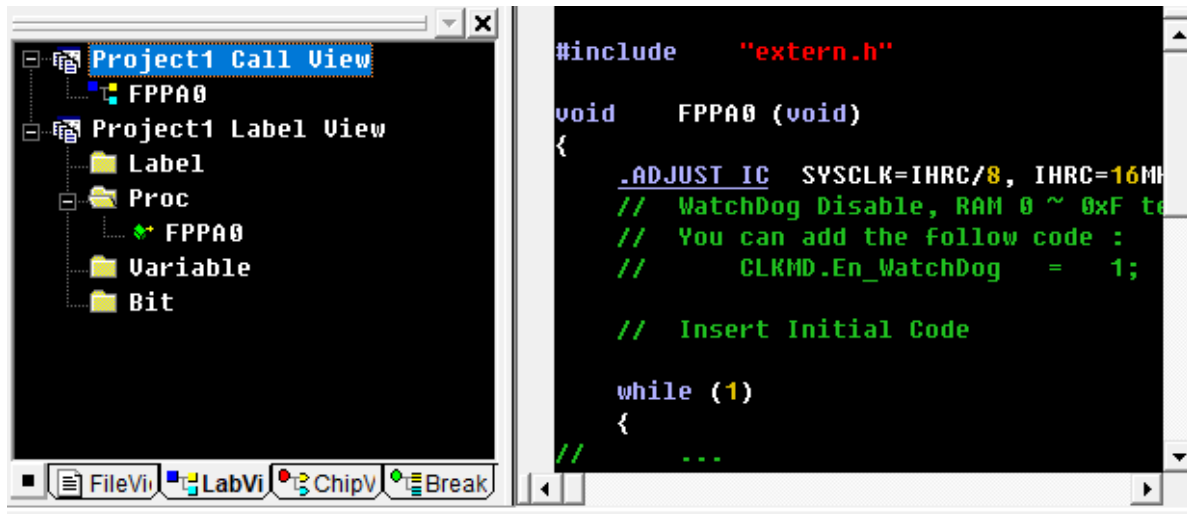

Fig.4-9. The information in LabView when the assembly is okay
(2) After the assembly is okay, the information of this window is shown in figure 4-9:
In the example shown in figure 4-9, you can double-click an item to quickly switch to the target location.